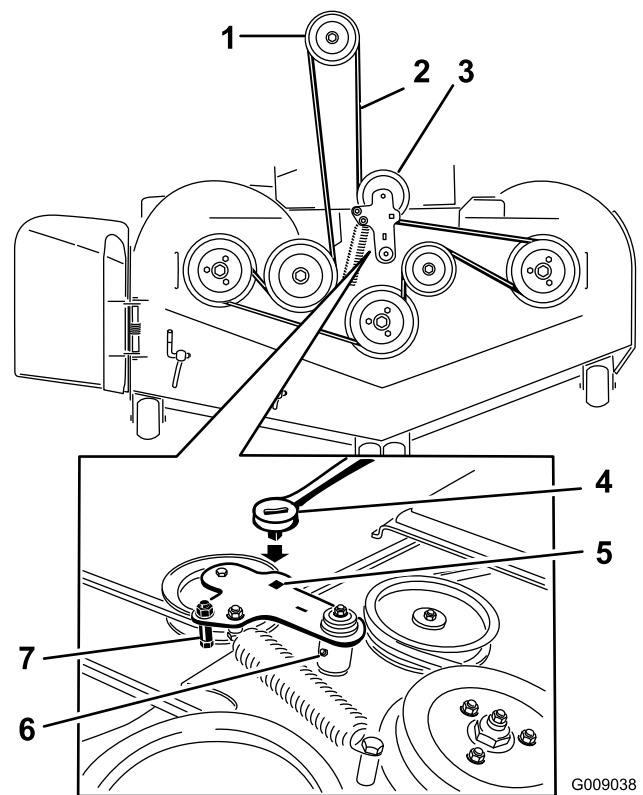

Figure 95
5. Lift the floor pan and insert a ratchet into the square hole in the deck idler (Figure 95).
6. Rotate the deck idler clockwise and remove the mower belt (Figure 95).